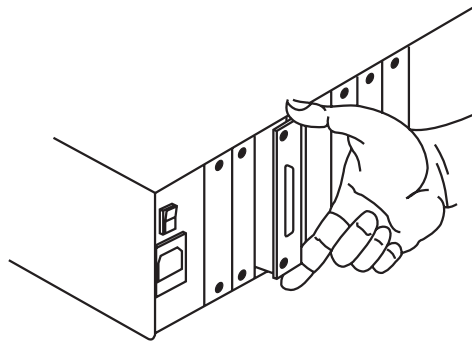

Figure 4-5. Inserting a CPU-Interface Card in the Switch.
4. If you look into the open slot on the Switch, you will see "guide tracks" that the top and bottom of the Card should slide along when you install it. Slide the Card gently into the slot along these tracks, until the Card's HD44 connector lines up flush with the back of the unit, as shown in Figure 4-5.